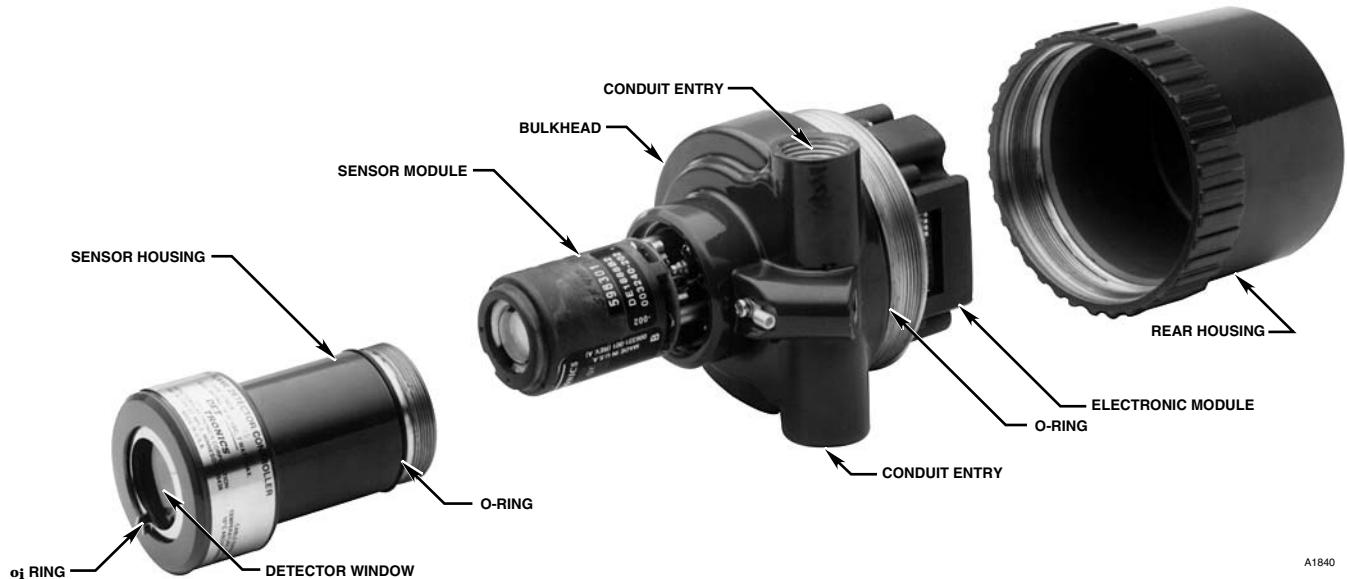

Figure 2—U7602E Detector Assembly
1. Remove the sensor housing from the bulkhead (turn counterclockwise). Install the sensor module and replace the sensor housing. See Figure 2.